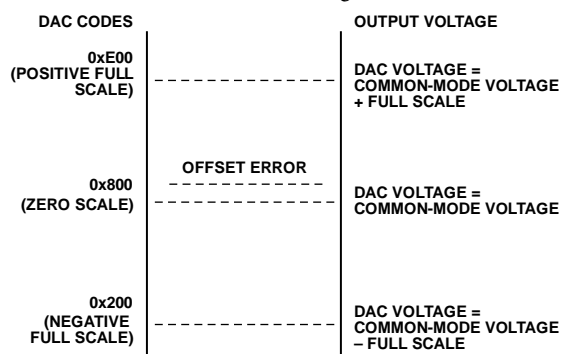
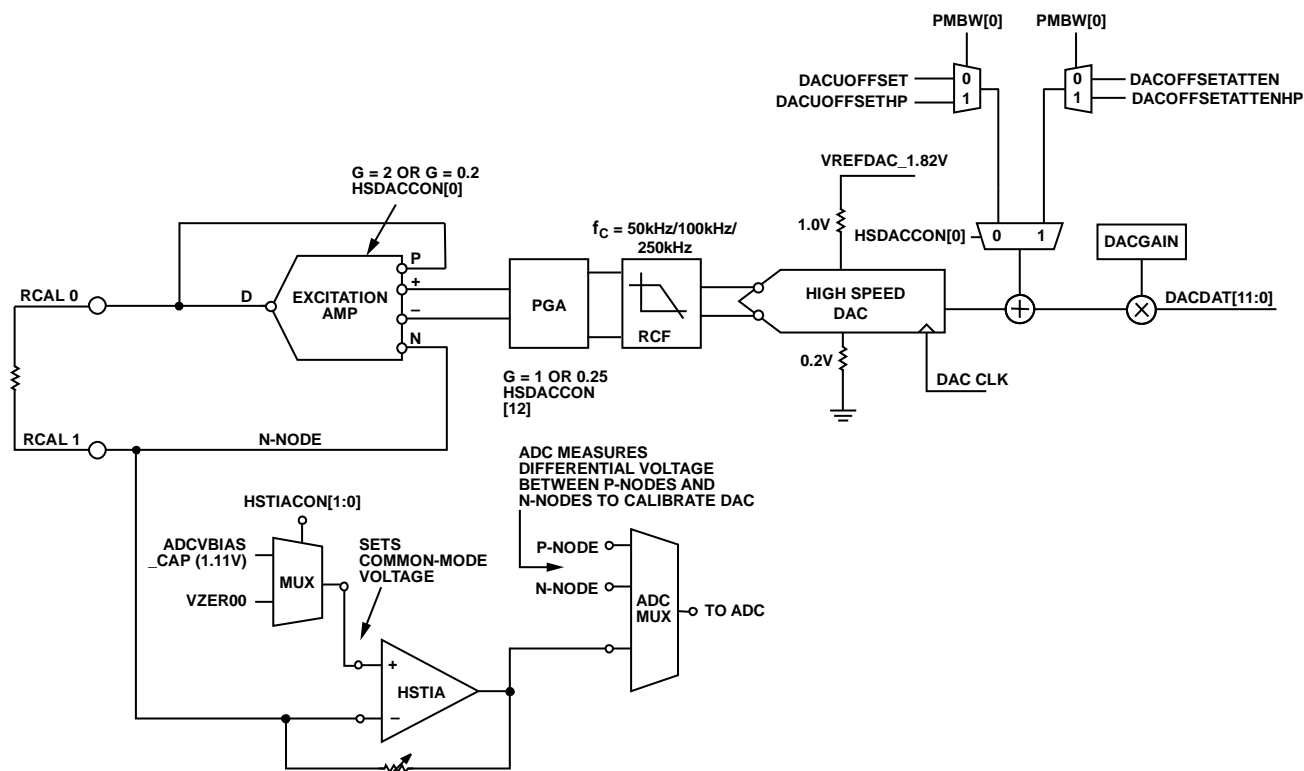

Figure 23. High Speed DAC Transfer Function
Figure 24. High Speed DAC Calibration
Figure 23 shows how the excitation amplifier works and its connection to the switch matrix. There are four inputs to the excitation amplifier: DACP, DACN, P, and N. The high speed DAC is a differential output DAC where the positive and negative inputs feed directly to the excitation amplifier. The voltage difference between these two outputs sets the peak-to-peak voltage on the output waveform. The P and N inputs serve two purposes: they maintain the stability of the excitation amplifier by providing a feedback path from the sensor, and they set the common mode for the high speed DAC output. Under normal circumstances, the common mode is set by the V_{ZERO} output connected to the N input. There is also an option to apply a dc bias voltage to the sensor and couple an ac signal onto this bias as in Figure 24. This is described in the next paragraph.
common-mode voltage of the high speed DAC) and V_{ZERO} sets the voltage on the sense electrode. V_{ZERO} must be connected to the positive terminal on the high speed TIA (HSTIACON, Bits[1:0] = 0x1). The DAC dc buffers must also be enabled by setting AFECON, Bit 21. With this configuration, a waveform, such as what is shown in Figure 24, can be achieved. The bias across the sensor is effectively the difference between V_{BIAS} and V_{ZERO} .
- The DAC DC buffers must be enabled, AFECON [21] = 1. Figure 23 shows how the DC buffers are connected to the excitation amplifier. These buffers enable the LPDAC outputs to drive the required bias voltage to the excitation amplifier and HSTIA.